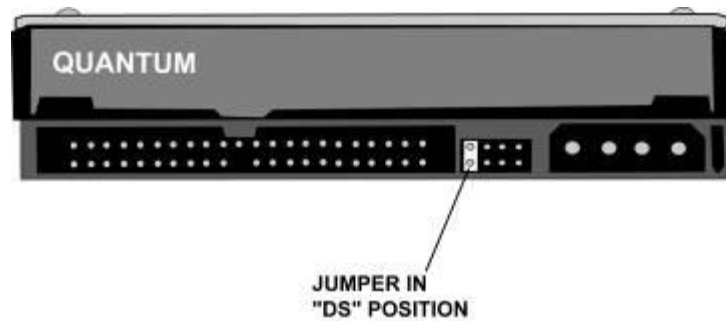

Figure 7, DS Position
- **Quantum** - The jumper must be placed in the “DS” position. The “DS” position is adjacent to the 40-pin connector. See figure 7.